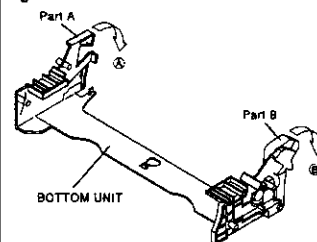

Fig. 2-3-2
1. Move the part A of the BOTTOM UNIT in the direction shown by arrow (A) and hold it with your hand as shown in Fig. 2-3-2. (You can install the BOTTOM UNIT without holding the part A, if a cassette tape is loaded in the BOTTOM UNIT.)
2. Move the part B of the BOTTOM UNIT in the direction shown by arrow as shown in Fig. 2-3-2.